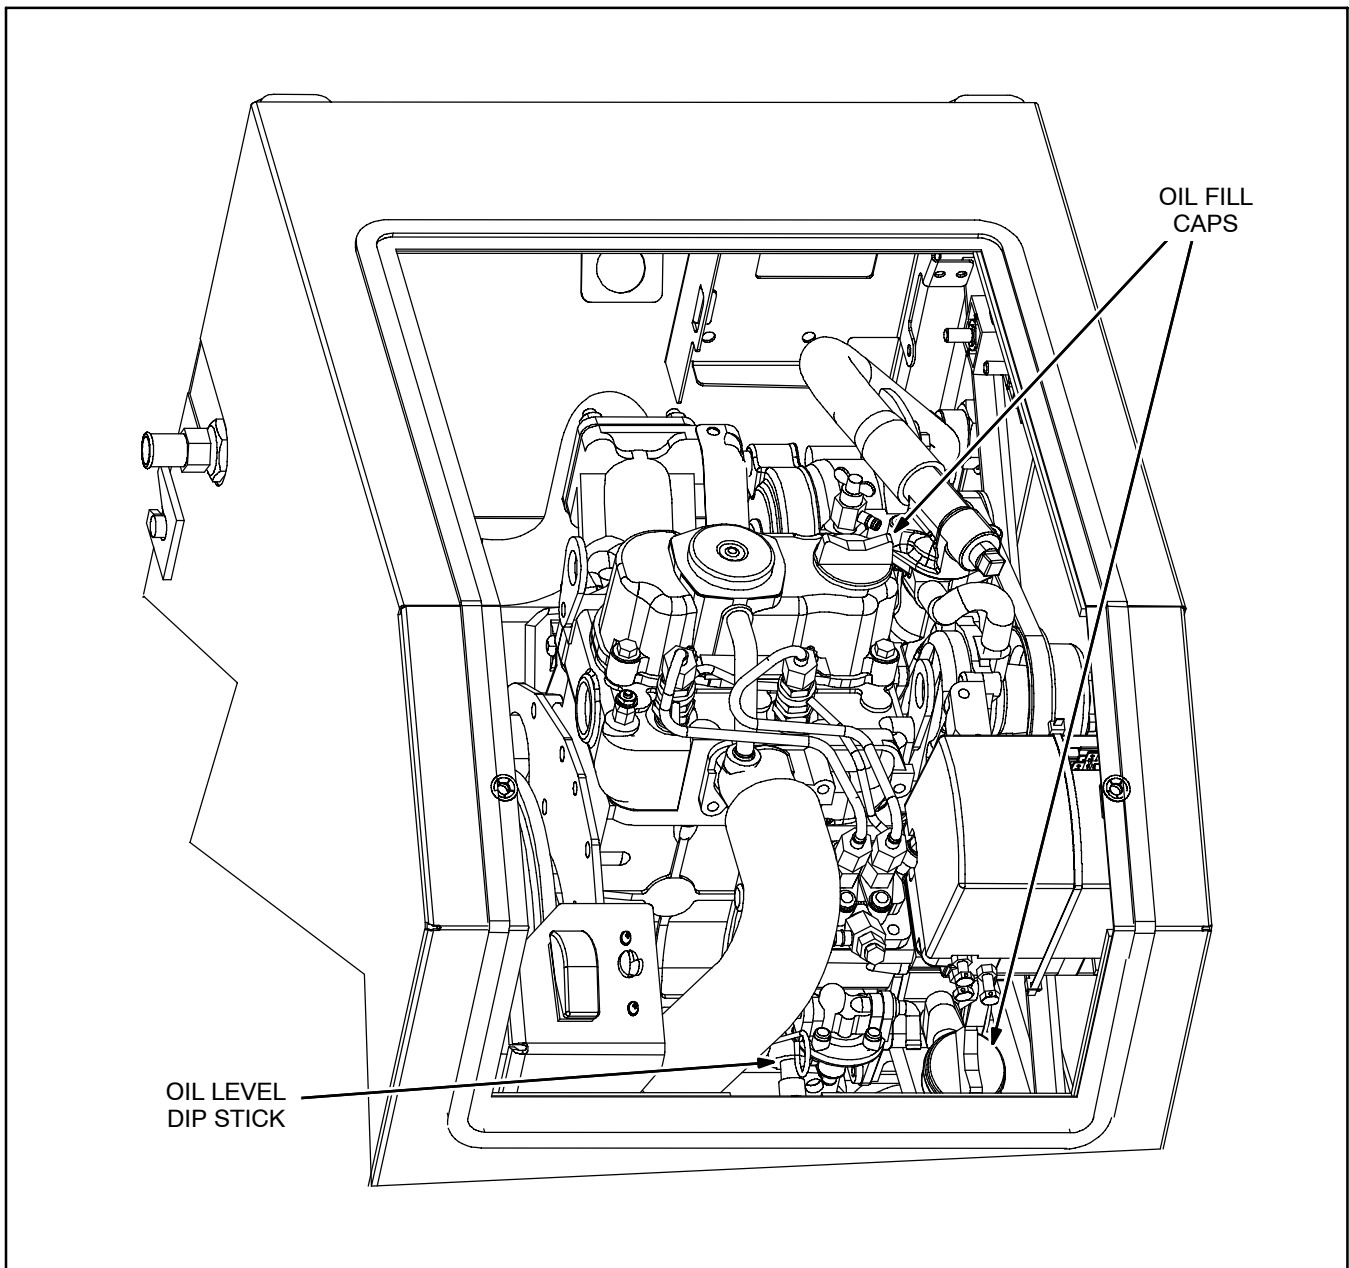

FIGURE 5-1. CHECKING ENGINE OIL LEVEL
Check engine oil level (Figure 5-1).
1. Park the vehicle on level ground, shut down the APU. The oil level dip stick and oil fill caps are accessible through the top access opening (Figure 5-1).